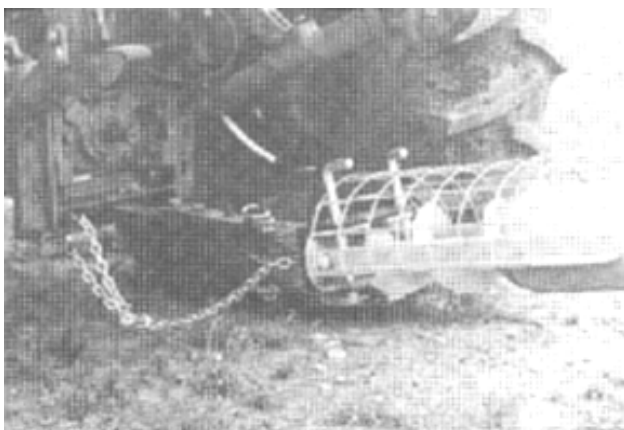

Fig. 4 ATTACHING
11. Secure the safety chain around the draw-bar cage to prevent unexpected separation. See figure 4.